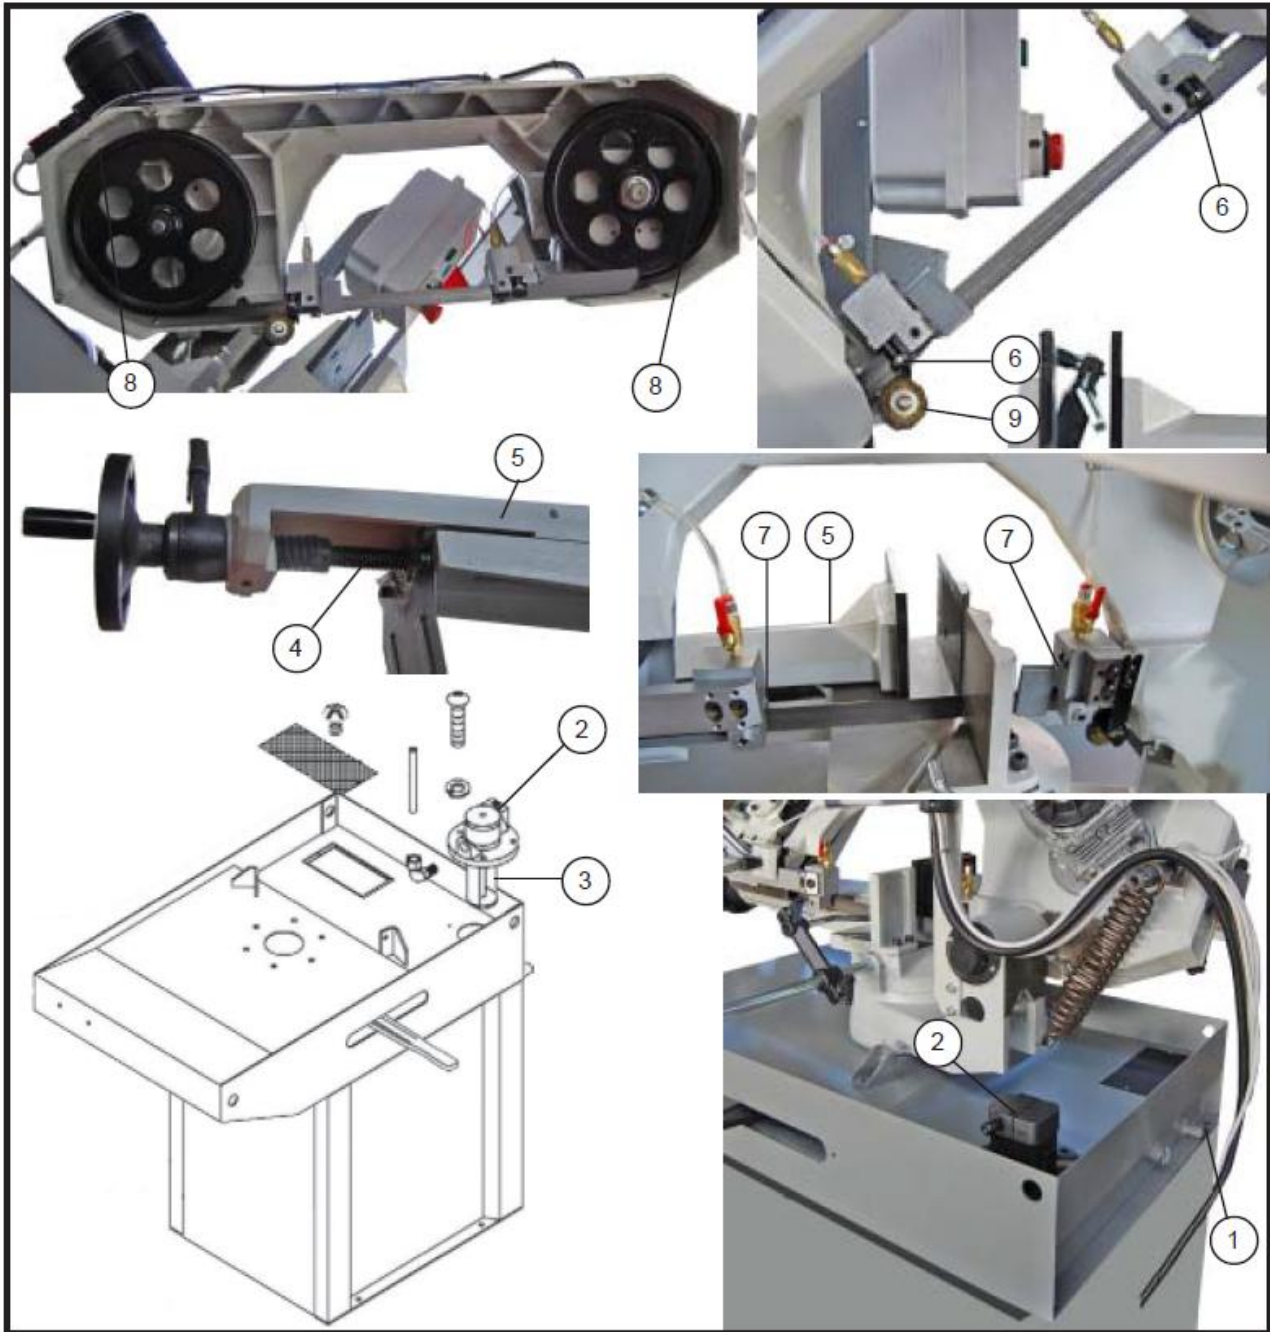

Fig. 4-12
- Check drain plug (1 fig. 4-12) for the coolant liquid in excess.
- Refill coolant liquid in the tank (2 fig. 4-12).
- Clean and remove the chips/swarf from the coolant liquid tank (1 fig. 4-12).
- Remove the electro-pump (2 fig. 4-12) from its housing, clean the draught filter (3 fig. 4-12).
- Clean and oil the vice screw (4 fig. 4-12) and the vice slide (4 fig. 4-12).
- Clean the blade-guide carbide pads with compressed air, in particular the bearings (6 fig. 4-12) and holes for the coolant liquid (7 fig. 4-12).
- Clean the sawframe internal part, the flywheels in particular the tracks where the blade run (8 fig. 4-12).